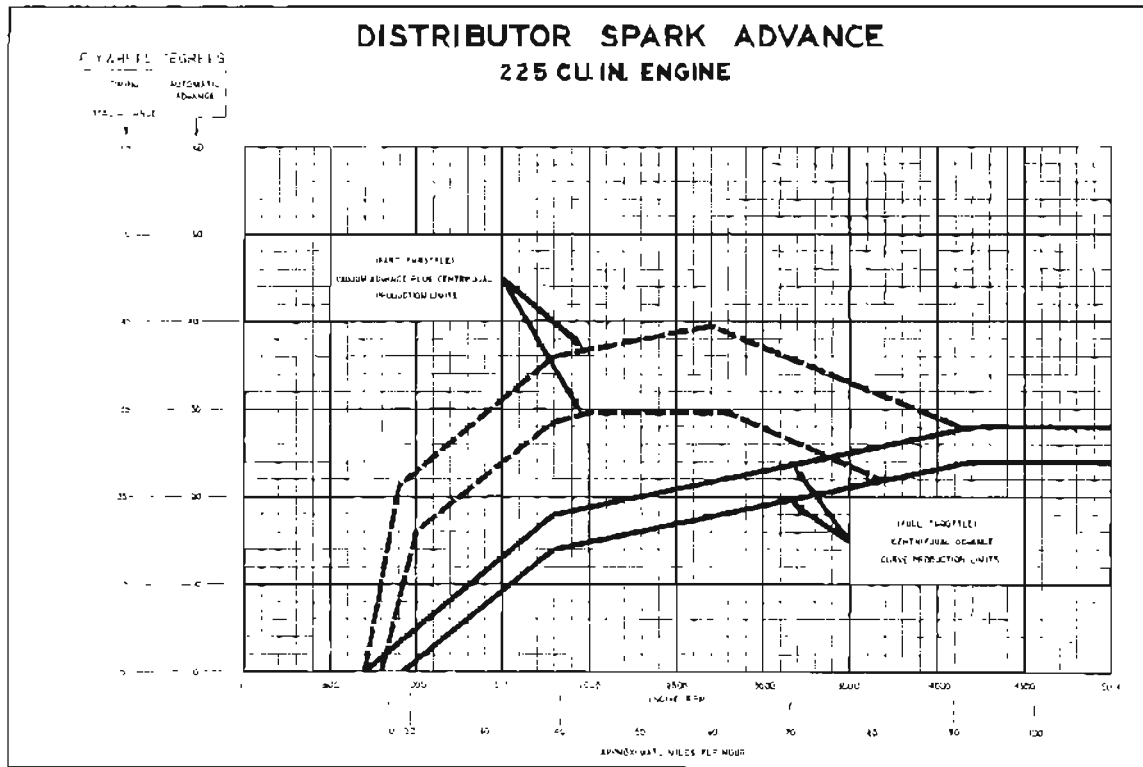

Figure 10-37—Distributor Spark Advance Chart—All V-6 Engines
(3) Ignition Coil. The oil filled ignition coil is mounted on the front end of the intake manifold, adjacent to the ignition distributor. The positive (+) terminal is connected to the ignition switch through the resistance wire, and is also connected directly to the starter solenoid to bypass the resistance wire during cranking of engine. The negative (-) terminal is connected to the distributor. The secondary (high tension) terminal is connected by a short cable to the center terminal in the distributor cap.
(4) Ignition Distributor. The ignition distributor is of the external adjustment type. See Figure 10-37. It is driven clockwise directly from the camshaft
When the vacuum at the opening is sufficient to act on the control diaphragm, it compresses the spring and rotates the breaker plate in a counterclockwise direction. This moves the contact points so that the distributor cam lobes open the points earlier in the compression stroke. The amount of throttle opening and the engine load determine the amount of intake manifold vacuum and thus the amount of spark advance obtained. The advance obtained by the vacuum control is added to the advance obtained by the centrifugal advance mechanism as shown in Figures 10-37 and 38.